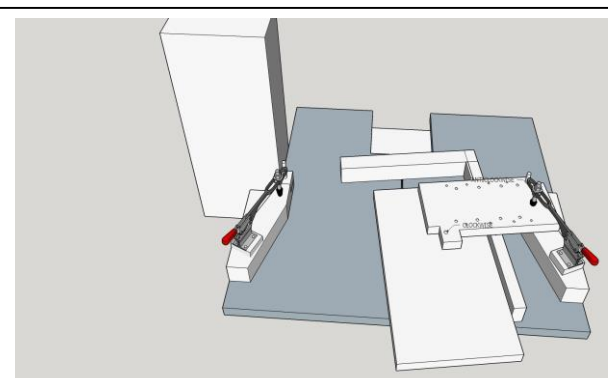

Figure 7: RHS Anti-clockwise Tails
- c. Cut the tails as described in Part 1. See figure 7.